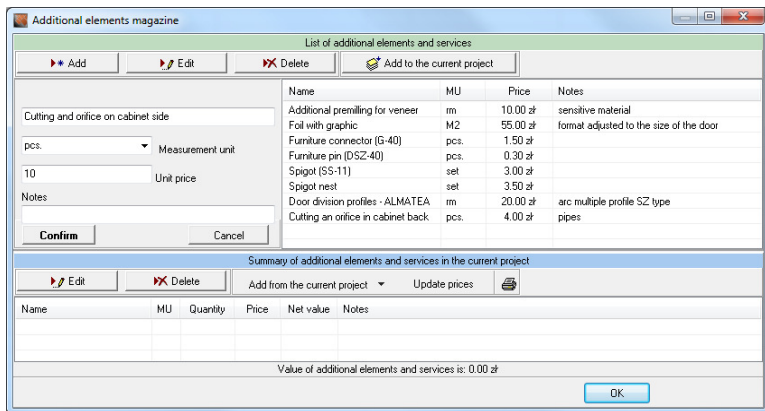

Fig. 45 – additional elements magazine
- 4)  **Additional elements [F11]** - opens the window of the magazine of additional elements (Fig. 45, next page).